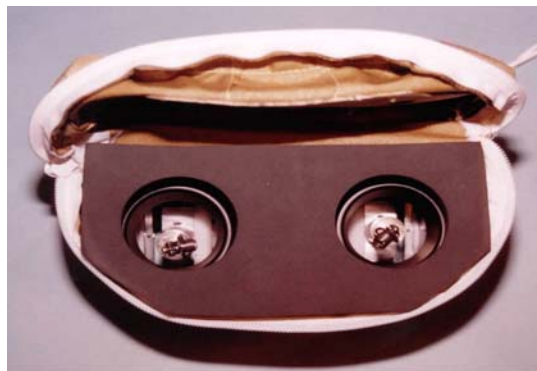

Figure 10.16- Rear foam layer inserted
17. Line up the four ½" diameter bores in the Rear Abdominal Foam Layer (T1LAM013) with the posts protruding from the inside face of the internal mounting plate. Pass the DGSP assembly cables through the large bored holes in the rear foam layer. Press the rear layer of foam over the cones and against the internal mounting plate, as shown in **Figure 10.16**. The foam should be on the inside of the abdominal bag.